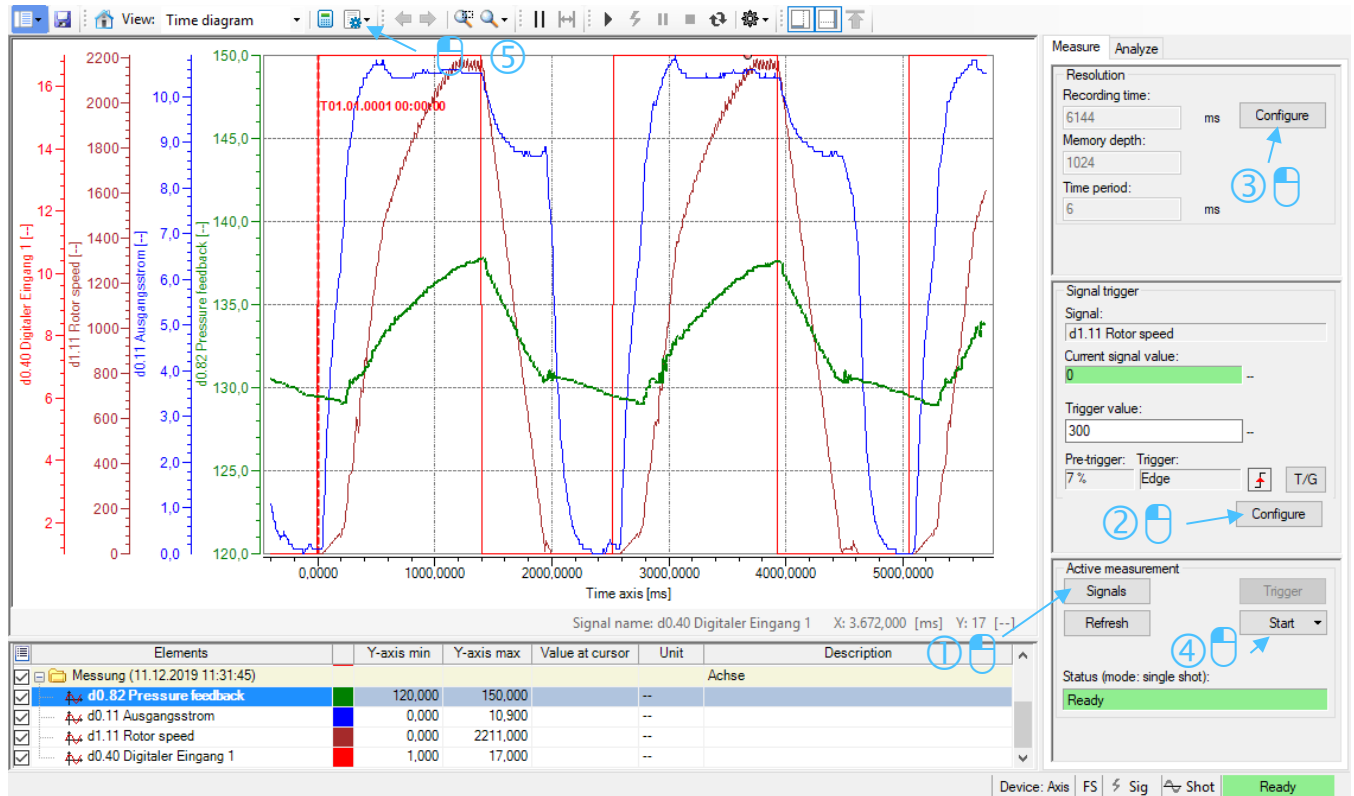

Abb. 17: Oscilloscope function window
- Click on "Start" to start the measurement ④ (see Abb. 17: Oscilloscope function window).
- By clicking on ⑤ you have the possibility to display all Y-axes or to select a range in which you can see the min/max/average/RMS values of each channel in a separate table.